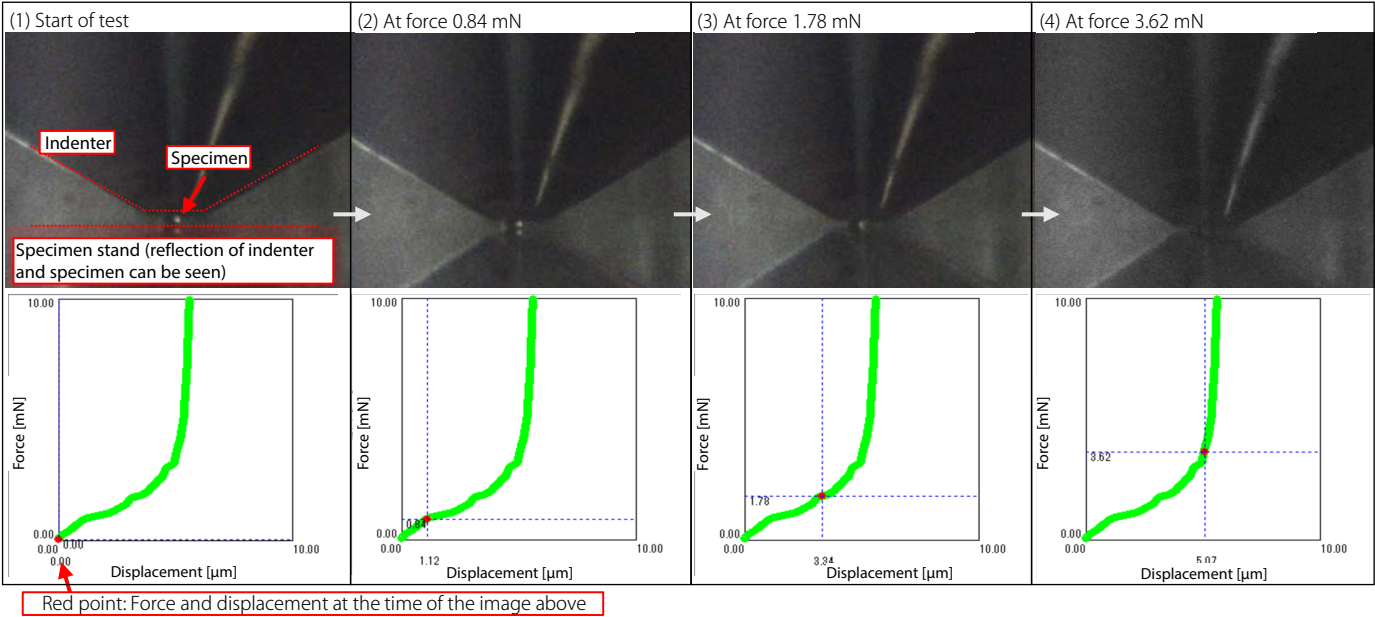

Fig. 5 Anode Material a during Test, and Corresponding Force - Displacement Graph
Fig. 5 shows anode material a during the test, and the corresponding force - displacement graph. When the Side Observation Kit is used it is possible to relate the movement at each point shown on the force - displacement graph to video taken during the compression test. Each photo is an image extracted from the video taken using the Side Observation Kit, and the red points on the force - displacement graphs indicate the force and displacement on each photo. The photos from (1) to (4) show the compression of the particle in time series sequence, from which it can be seen that at about 0.84 to 3.63 N the particle deformed significantly.